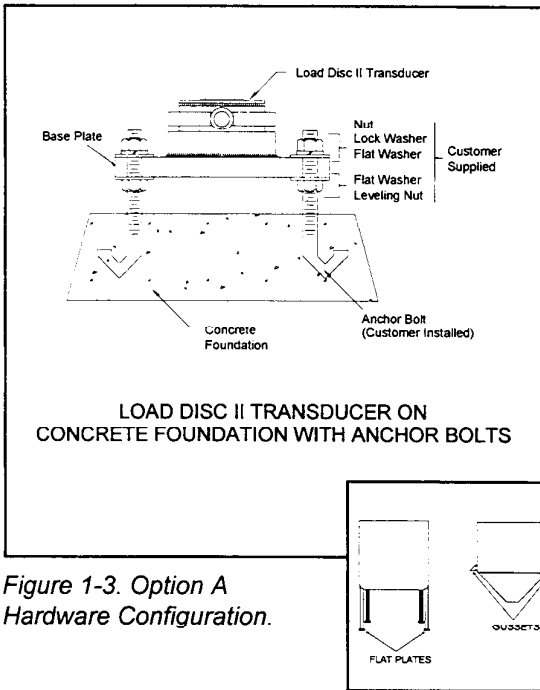

Figure 1-3. Option A Hardware Configuration.
- Most Load Disc II hardware kits can use leveling nuts instead of shims to adjust the height of the installation (Figure 1-3). The Spun-Ball Leg Adaptor hardware kit has a level-adjusting adaptor. The level-adjusting adaptor eliminates the need for inserting shims.
This option has no hardware kit. The Load Disc II transducer (shown in Figure 1-3) comes with a base plate that has four holes for bolting it down to the floor. Also, a threaded blind hole is on the top so gusseted legs can be bolted to it.